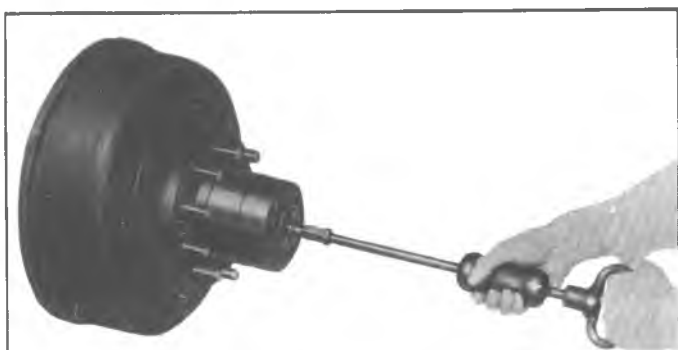

Fig. 70—Removing Axle Shaft—11,000 # Axle
2. Install slide hammer, Tool J-2619, and remove axle shaft, as shown in figure 70.